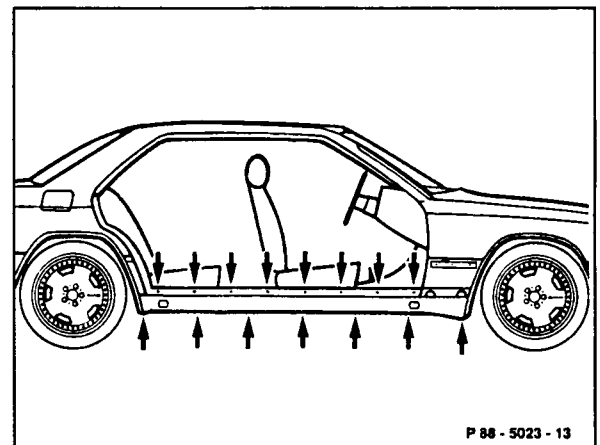

Figure 14
1. Remove side panels (A and C, Figure 14) by carefully levering with plastic wedge (110 589 03 59 00) and tugging gently to disengage panels from clips.